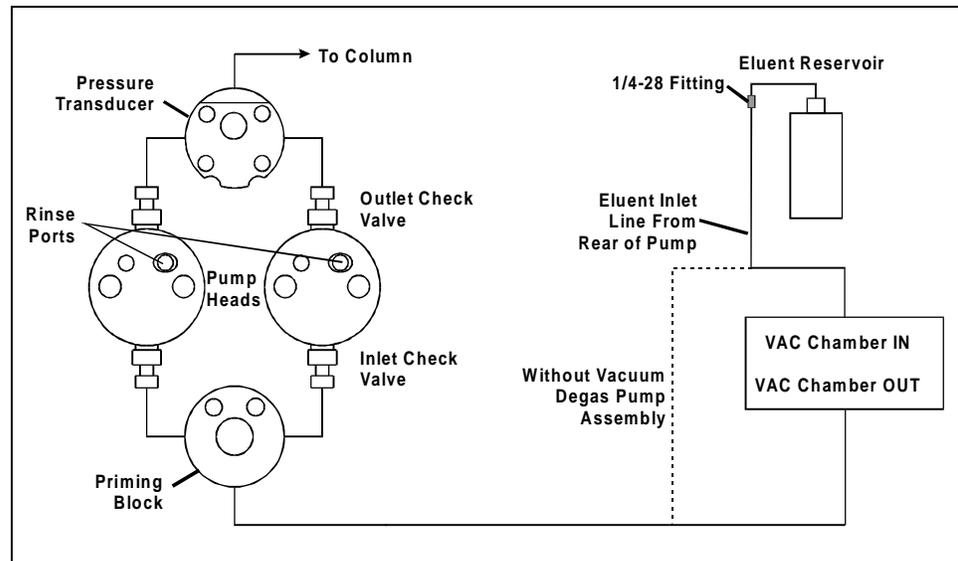

Figure 3-7. Eluent Flow Schematic
- Check the entire mechanical chassis for leaks from the rinse ports, the vacuum degas chamber, the eluent inlet fitting, and the eluent reservoir (see Figure 3-7). Tighten or replace any leaking fittings. Wipe up liquid spills and rinse dried reagents off the pump components with deionized water.
- **Leaks from any connection between the eluent reservoir and the pump heads indicate an eluent leak (see Figure 3-7)**